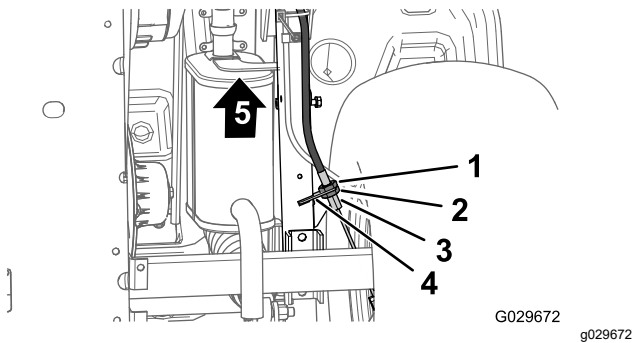

Figure 66
3. At the bottom of the machine, loosen the rear jam nut for the threaded adjuster of the parking-brake cable 4 turns (Figure 66).
- A. Loosen the rear jam nut (Figure 66) for the threaded adjuster of the parking-brake cable 1 turn.
- B. Tighten the forward jam nut (Figure 66).
4. Tighten the forward jam nut (Figure 66).
- A. Loosen the forward jam nut (Figure 66) for the threaded adjuster of the parking-brake cable 1 turn.
- B. Tighten the rear jam nut (Figure 66).